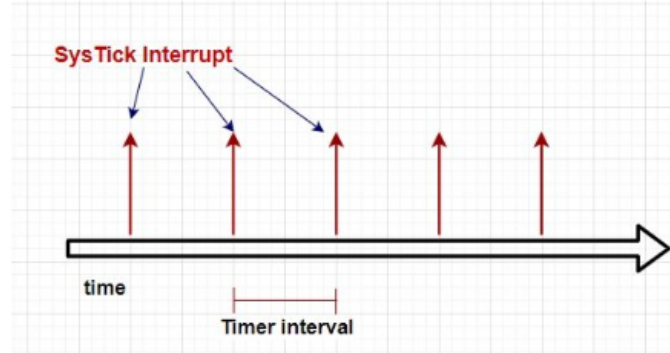

Figure 1: SysTick Interrupts
- **Interrupt Method:** Inside the loop, we will be doing nothing, instead we will write a logic (To perform our task) inside the SysTick handler function SysTick_Handler(), which will execute after specific time interval as shown in Fig. 1.